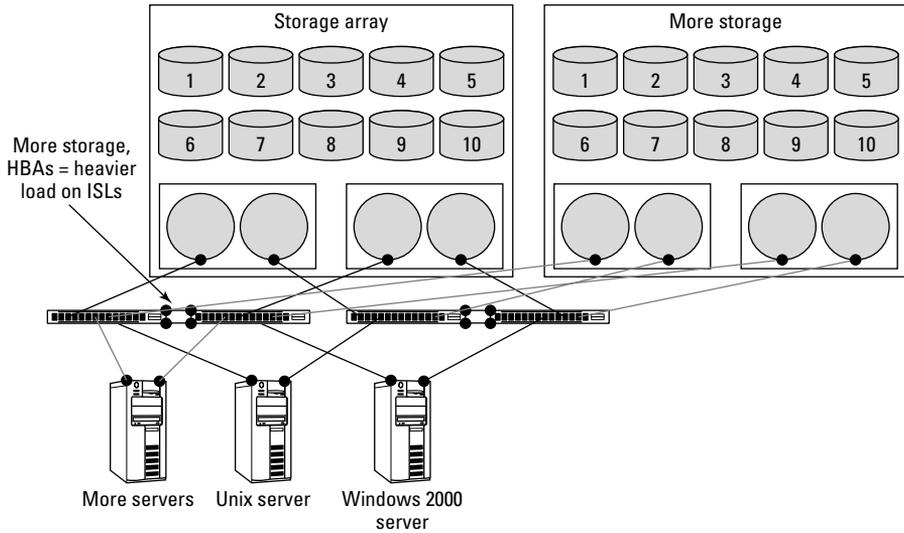

Figure 7-5: Use ISLs to handle the potential load of failures and future expansion.
- ✓ **Plan for growth:** The number of switch-to-storage connections between your switches might be only one-to-one today, but that number could grow. (You can see a more complicated inter-switch configuration in Figure 7-5.) Under certain conditions, such as a cable or port failure on the array, you might direct all traffic that was going through the two switches to go through only one switch. A lone ISL will become a bottleneck in the SAN traffic, so planning for it is a good idea. Having multiple ISLs means that you can “trunk” them together into a larger pipe that allows many ISLs to act like one higher-speed connection between switches. This is typically done automatically by the two interconnected switches. (Chapter 5 details ISL trunking.)